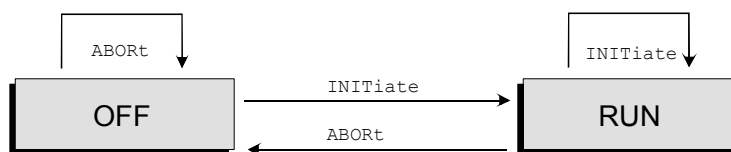

Fig. 5-8 Generator states and control commands
**AFGenerator...** As illustrated in Fig. 5-8, **INITiate** can be called in any generator state. If the generator is already running (**RUN**), **INITiate** has no effect.
**AFGenerator...** As illustrated in Fig. 5-8, **ABORt** can be called in any generator state. If the generator is switched off (**OFF**), **ABORt** has no effect.